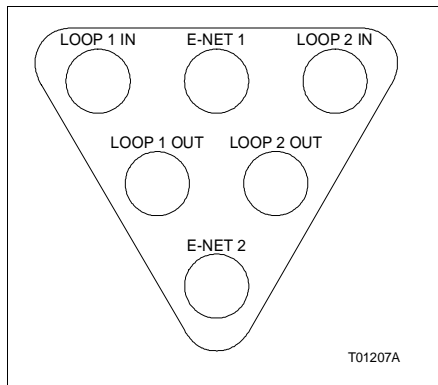

Figure PR28-1. Elbow Loop Connectors
- 5. Connect it to the proper elbow loop connector as shown in Figure PR28-1.